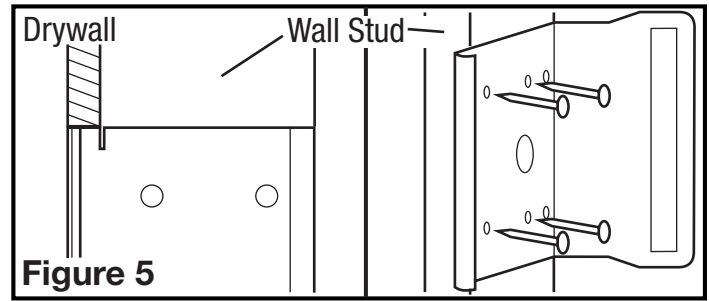

Figure 5
- Using the gauge on the bracket, line up the bracket on the side of a wall stud such that the bottom of the fan will be flush with the finished wall. The bracket should sit one drywall thickness forward on the stud (**Figure 5**).